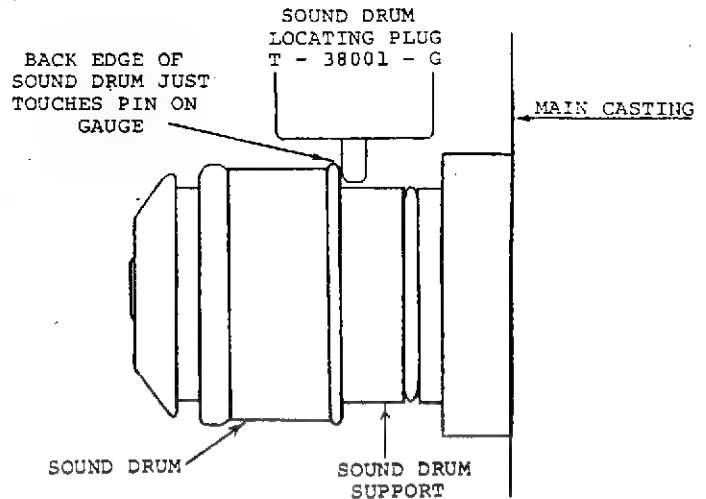

Figure 3-34. SOUND DRUM ALIGNMENT
4. Insert the Sound Drum in the Sound Drum Support and push this entire assembly toward the main casting until the back edge of the Sound Drum just touches the Pin on the Locating Plug. (Figure 3-34) Be sure to maintain the centering accomplished in Step 3 while making this adjustment.